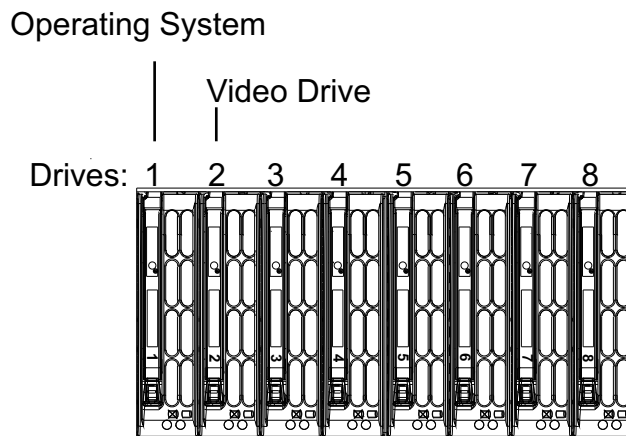

Figure 4-6. Front Panel: System Drives
4. Screw my be used to secure the to hold the front of the chassis to rack **Figure 4.6**